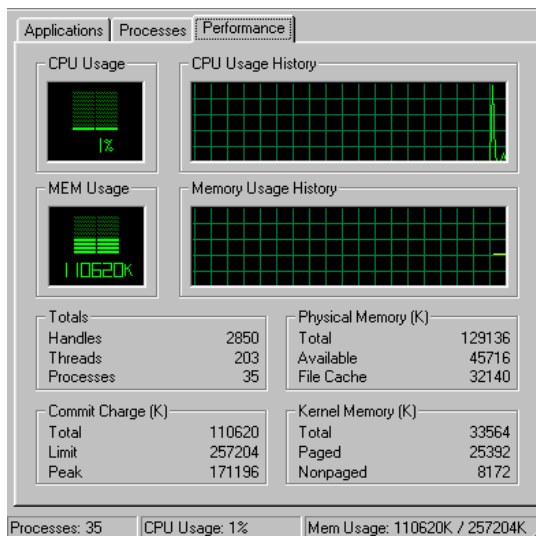

Figure 3-46 Windows Task Manager Dialog Box
- b. Select *Task Manager*. The *Windows Task Manager* dialog box displays with the *Applications* page open. Click the *Performance* tab to open the *Performance* page (Figure 3-46).
- c. At the *Physical Memory (K)* portion of the dialog box, inspect the total amount of physical memory.
- d. Close the dialog box by clicking *Close (X)* at the upper right corner of the window.